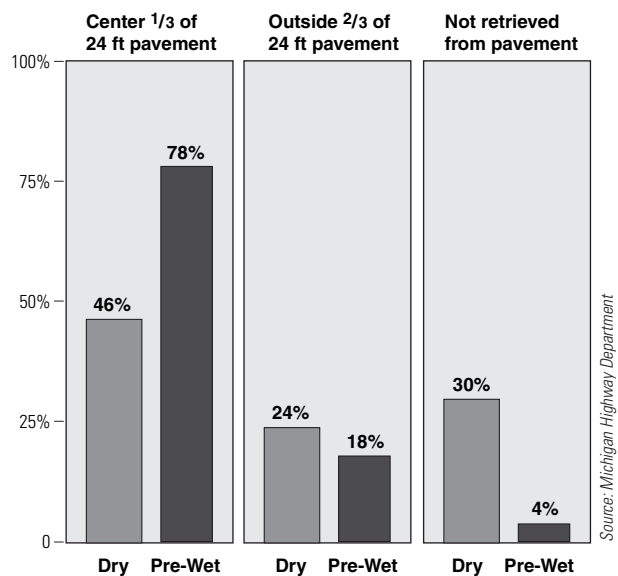

Figure 1: Salt retrieved from pavement surface
- Reduced loss of salt from bounce and scatter. (Savings up to 30%. See Figure 1)